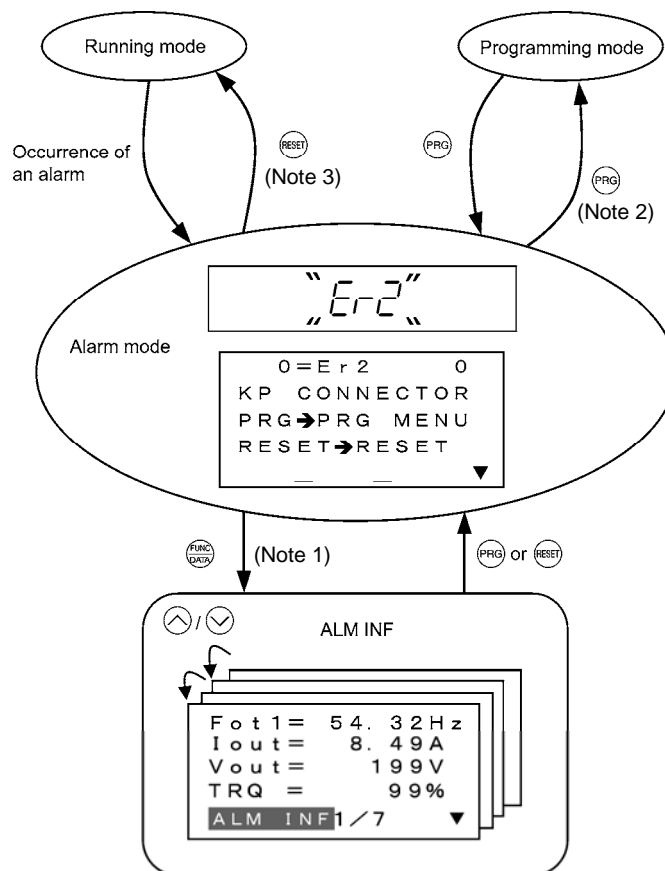

Figure 7.38 Screen Transition in/from Alarm Mode
■ Display of running status information at the time of alarm (Note 1 in Figure 7.38)
■ Transition to Programming mode (Note 2 in Figure 7.38)
■ Resetting alarm (Note 3 in Figure 7.38)